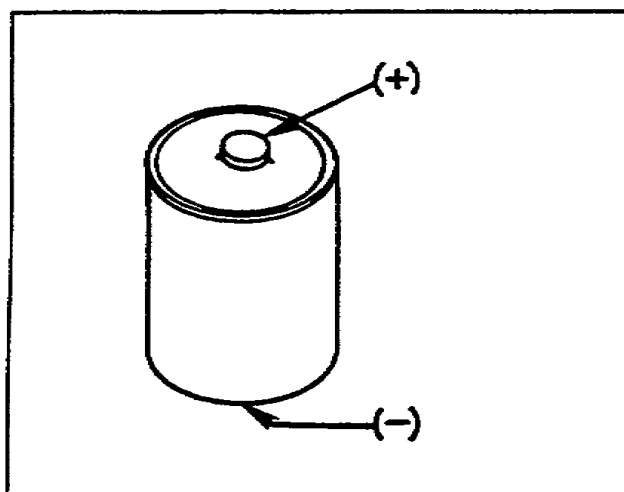
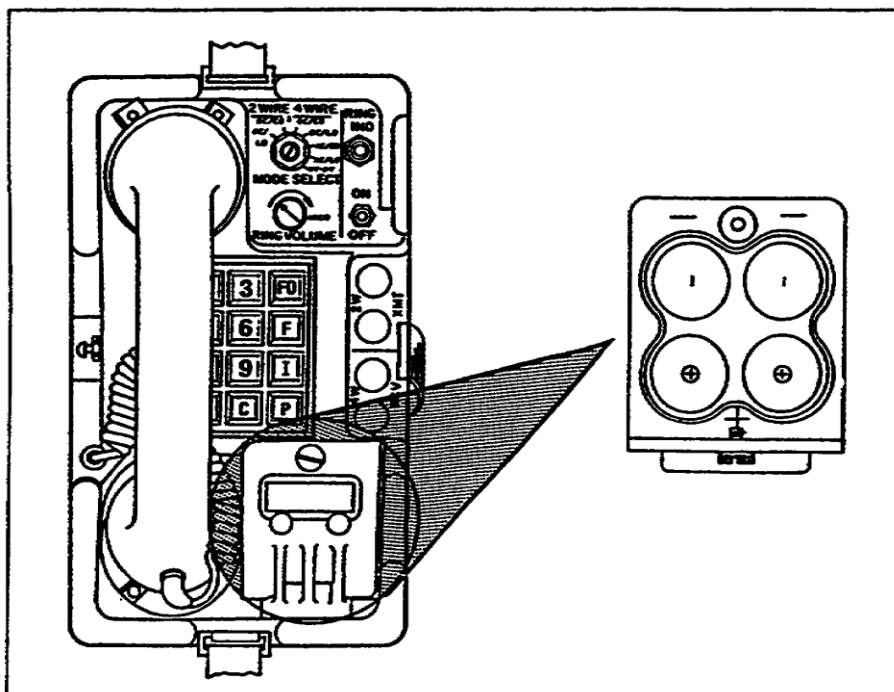

Figure 1-15. Battery cell.
Figure 1-16. Battery compartment.
b. Polarity of batteries is important. Check the cells before inserting to forego any problems. The top of the cell with the button on it is the positive (+) and the bottom of the cell that is flat is the negative (-). (See Figure 1-15.) Insert the batteries in the compartment as shown in Figure 1-16.